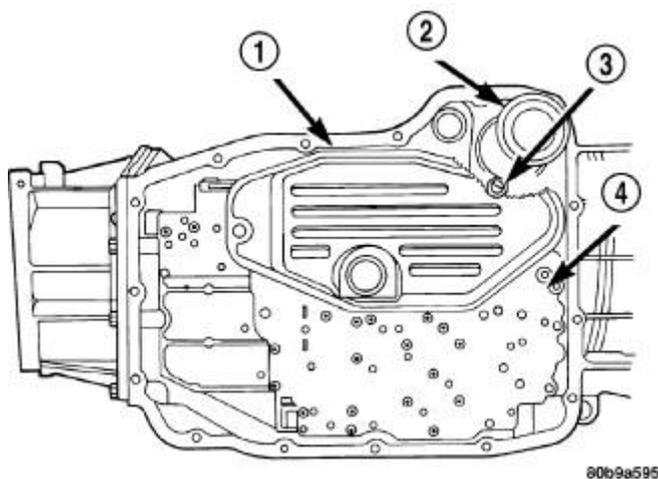

Fig. 140: Primary Oil Filter & Oil Cooler Return Filter
3. Install screw to hold the primary oil filter (1) to valve body. Refer to **Fig. 140**. Tighten screw to 4.5 N.m (40 in. lbs.) torque.
4. Install new cooler return filter (2) onto the transmission, if necessary. Torque the filter to 9.5 N.m (7 ft.lbs.).